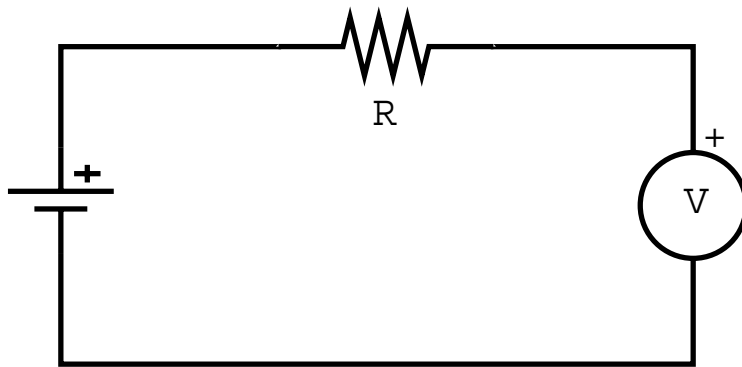

Figure 5: Measuring the internal resistance of a voltmeter
Suppose one connects the DC power supply in series with a resistor of several megaohms and the DMM as shown in Figure 5. The voltmeter reads its voltage, and its current is the same as in the resistor, i.e.
1. Set up the circuit shown in Figure 5 with the DMM on the 20VDC range and R set at about 5 M Ω .